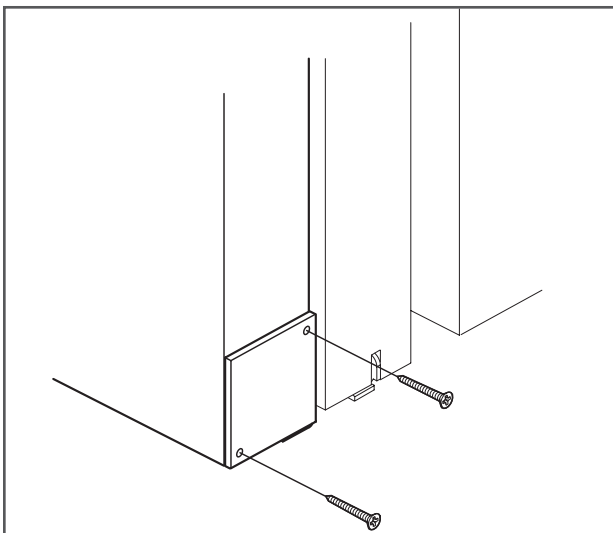

Figure 18
25. Install plate with two flat head Phillips screws (provided) and a drill with a Phillips bit (Figure 18).